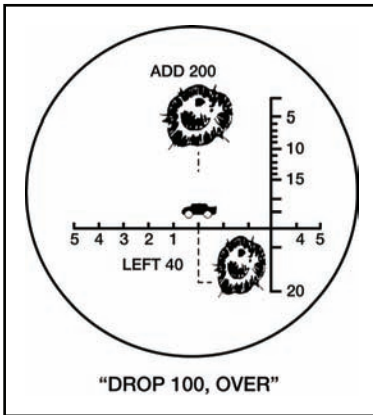

Figure 061-283-6003-5. Third round
e. Transmit corrections to the FDC in meters. The initial correction should bracket the target in range. The adjustment phase of a fire mission would resemble the example shown in figure 061-283-6003-6. Deviation correction should be made to keep the rounds on the observer target line.